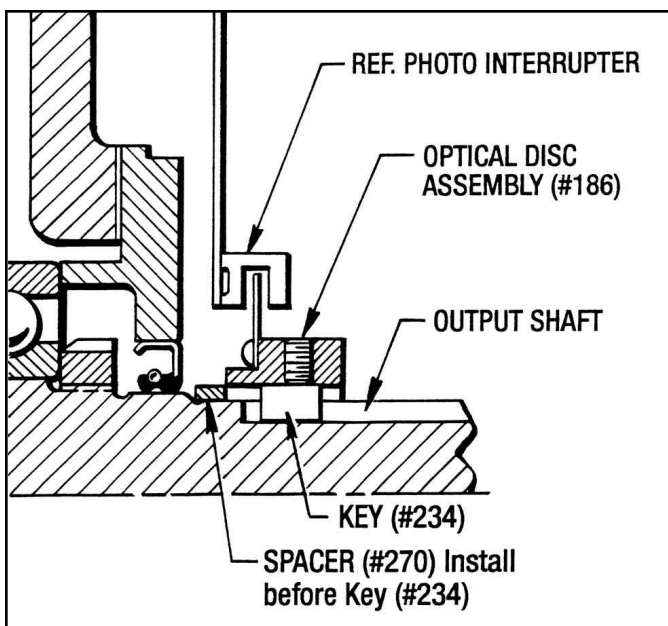

Figure 9.10 - Optical Disc and Hub Positioning
1. First slide the Spacer (#270) onto the output shaft as far as it will go. Install Key (#234), then slide the Optical Disc Assembly onto the output shaft, butting it up against the Spacer. (See Figure 9.10)
5. Attach the Disc Housing (#17) to the output end of the Posidyne with the (4) Screws (#76).
7. Carefully insert the Circuit Board (#355) into the top of the Disc Housing making sure the (3) Photo Interrupters straddle the Optical Disc. (See Figures 9.10 and 9.11)